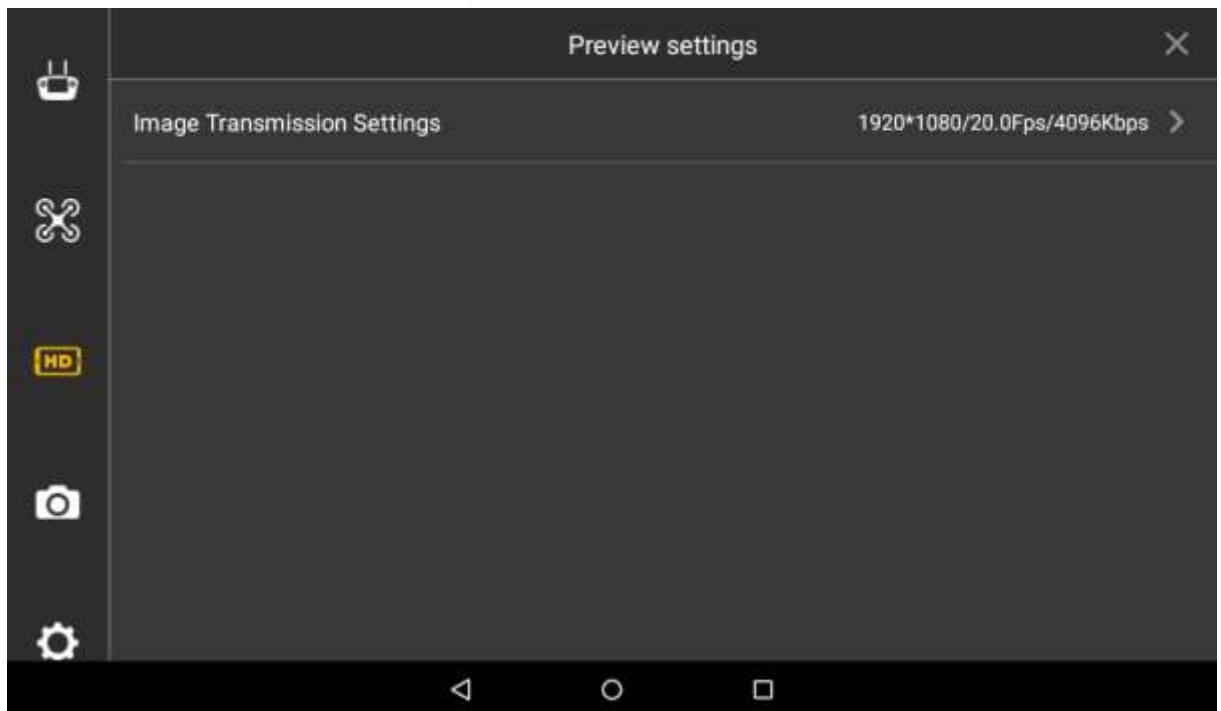

Figure 0-26
Step 1 Select “Settings > Flight Control Settings > Preview Settings” and enter the preview setting interface, as shown in Figure 0-26.